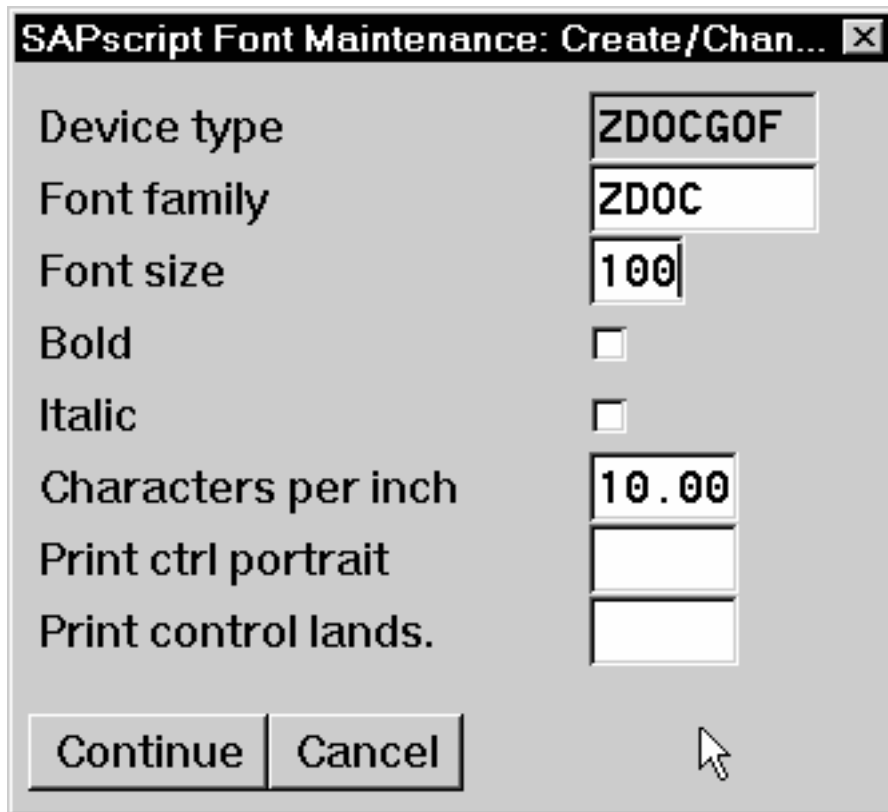

Figure 62. SAPScript Font Maintenance (Create/Change) window for OTF Fonts
11. From the **Create/Change...** window shown in Figure 62 on page 142, select the intended device type (ZDOC0GF) and fill in the remaining information: